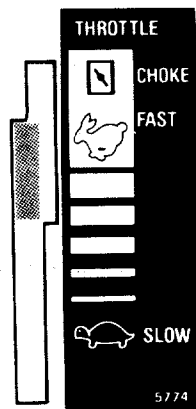

FIGURE 6.
8. Move throttle control lever on handle forward until it stops in FAST position. (**Do not** push all the way forward to CHOKE position.) See figure 6.